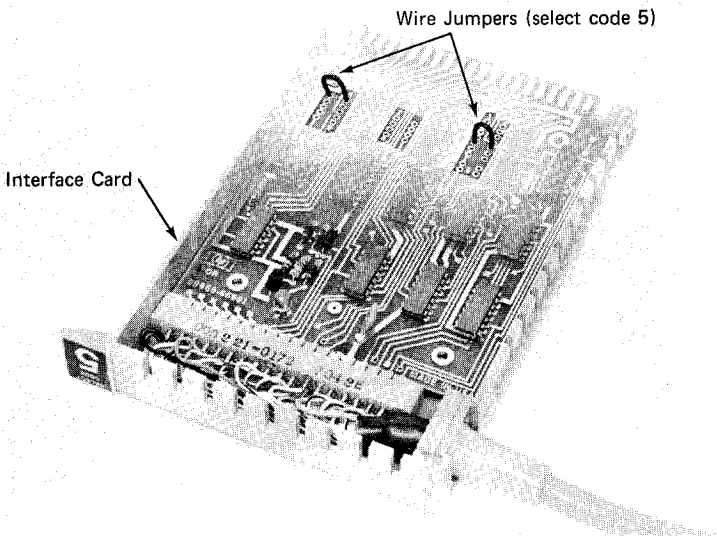

Figure 4a.
3. Locate the two select code jumper wires (see Figure 4). Notice that each wire connects one set of holes on the interface card. The sets of holes are numbered 1 through 9 — each set corresponds to a specific select code number. Figure 4a shows the jumper wires set to select code 5, and Figure 4b shows the wires set to select code 2.